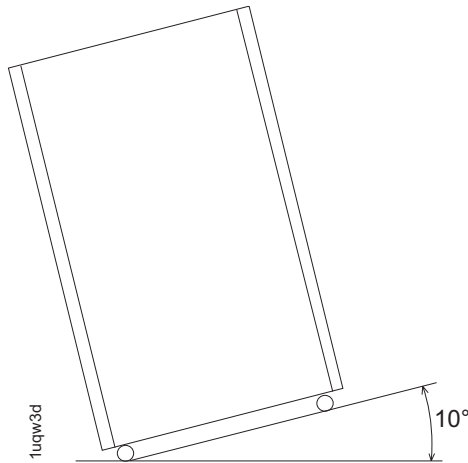

Figure 6. Maximum tilt for a packed frame is 10°
3. To compensate for the weight of the storage system shipment, ensure that the loading ramp at your site does not exceed an angle of 10°. (See Figure 6 on page 94.)